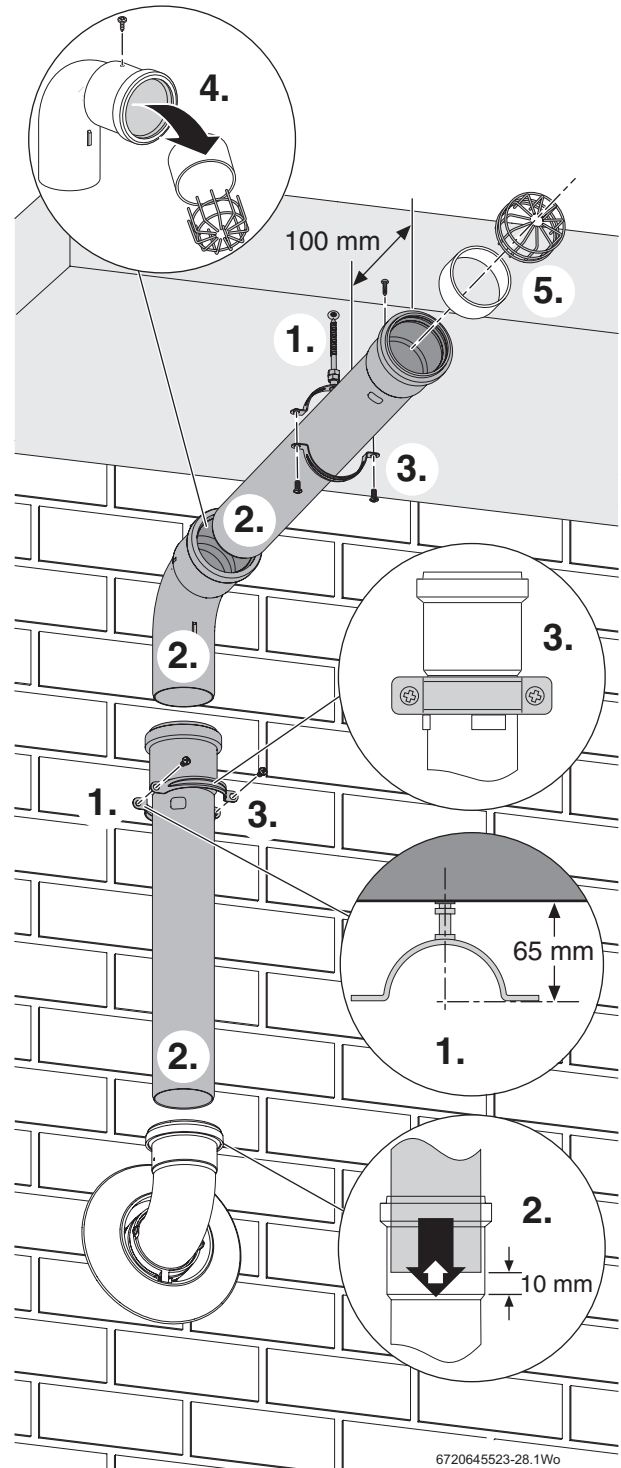

Fig. 50 Under balcony installation
Fit the damper (1) as shown in figure 49, ensuring the correct orientation of the damper. The rubber seal is inserted into the extension tube. Then assemble the plume management system as shown in figure 50.
1. Refer to figure 50 and mark the position for the wall clamp that coincides with the extension tube just below the top fitting. Drill a suitable hole and fit the wall plug. Screw the clamp into the wall plug as shown.